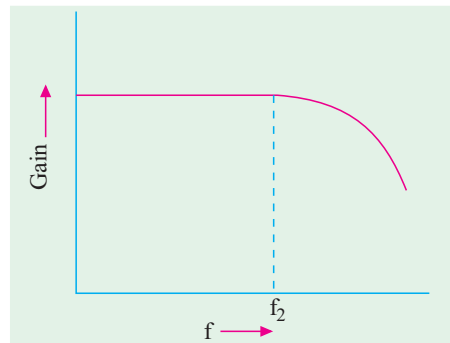

Fig. 61.19
4. It has **no coupling or by-pass capacitors** to cause a drop in gain at low frequencies. As seen from Fig. 61.19, the frequency-response curve is flat upto upper cut-off frequency determined by stray wiring capacitance and internal transistor capacitances.